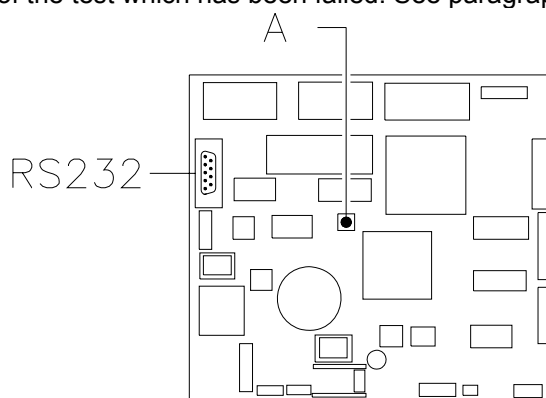

FIG. 5
- If the message "MEMORY CLEARED" appears on the display, press the button on the main board inside the box of the coin dispensing mechanism (see FIG. 5) to initialize the memory. The message "DOOR OPEN, MACHINE IN MAINTENANCE MODE" appears on the display. The machine automatically starts a self-test. If no errors are identified, the column moves into the starting position and the machine is ready for use.
When the machine is switched on, if there are no data stored in the memory or if the data stored are corrupted, the message **"INIT"** followed by **"memory cleared"** appears on the display. The message **"INIT"** continues to be displayed until the main board and the power board start to communicate. The same condition occurs when the "erase memory" command is performed or when the memory has failed. By pressing the pushbutton Ref. A FIG. 5 on the main board inside the coin mechanism compartment FIG. 2, Ref. 1 the memory is automatically restored with the predefined values described in the instructions section. The machine then automatically re-initialises its memory by means of a series of tests at the end of which, if all the tests have been passed, the machine enters into operation. If not, the machine remains blocked and the display shows the number of the test which has been failed. See paragraph **FAULT FINDING**
Open the coin mechanism compartment door and hold down the mode button Ref. A FIG. 5 for approximately 2 seconds until the message **"Command 00"** appears on the second line of the display and the buzzer emits a long tone. The first display line will indicate that the machine is in **"programming mode"**. This level of the menu only allows access to the commands for modifying the price and for displaying the sales for each price (commands 03-04-05-06).